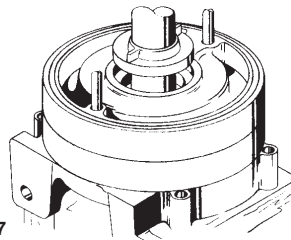

Figure 4-7
9. Slide an interstage bushing onto the shaft. The smooth wearing face should be installed against the ring (#9).(refer to figure 4-7)